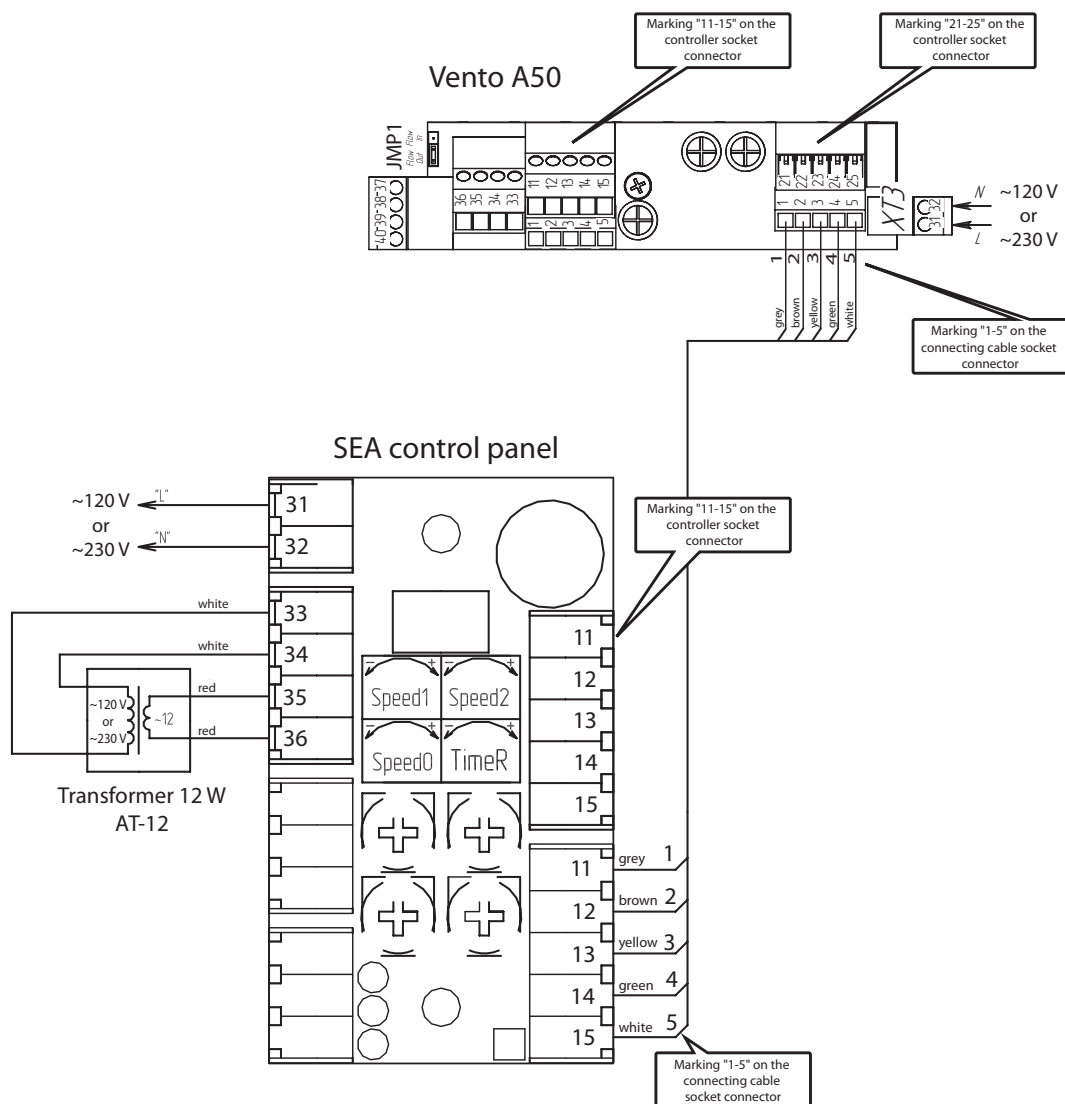

Fig. 18. General wiring diagram for connection of Vento A50 unit to the SEA control panel
* - air flow direction depends on position of the jumper JMP1 on the circuit board. The jumper is set to supply mode by default, fig. 18.